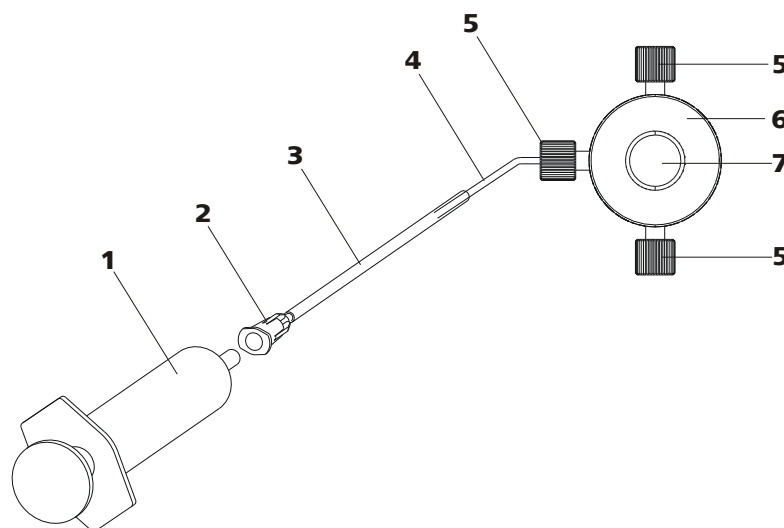

Figure 15 Deaerate the high pressure pump
Deaerate the high pressure pump as follows (see Figure 15, page 33):
- Insert syringe (15-1) in the Luer connector (15-2) of the purging needle (see Figure 15, page 33).